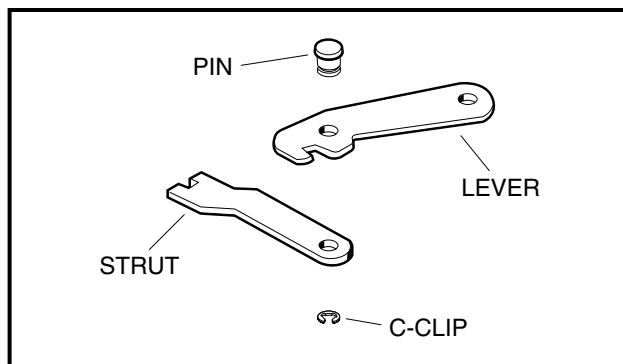

Figure 6b-10 Park Brake Lever and Strut
8. For the rear brake clusters, ensure that the park brake lever and strut assembly (14) can be easily moved by hand (**Figure 6b-21, Page 6b-25**). If the assembly can be easily moved by hand, proceed to step 10. If the assembly cannot be easily removed by hand, cleaning and lubrication will be necessary.
- 9.1. Remove the park brake cable hair spring clip (1), hair spring cotter pin (2), and clevis pin (3) from the cable clevis and strut (**Figure 6b-18, Page 6b-22**).